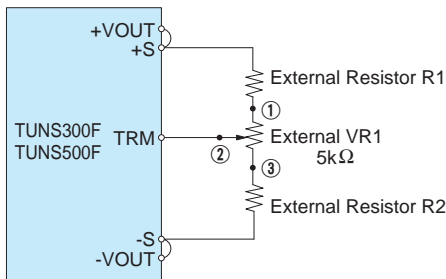

Fig. 4.3 Connecting External Devices (TUNS300F/TUNS500F)
■Output voltage can be adjusted by connecting an external potentiometer (VR1) and resistors (R1 and R2) as shown in Fig. 4.3.